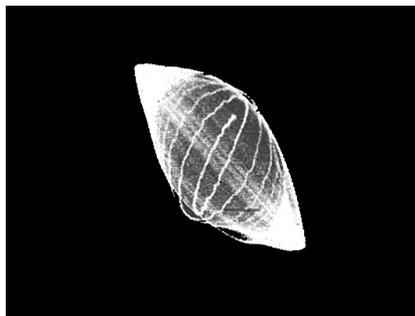
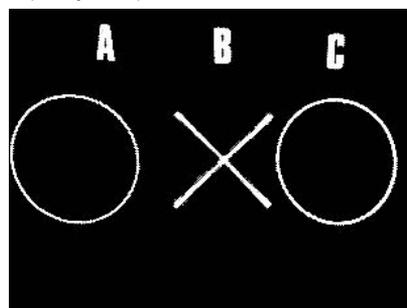

Fig.10. Phase shift from an amplifier during a frequency sweep from 1Hz to 1000,000 Hz.
Fig.11. As the text implies you may work these phase shift displays out for yourself with the aid of Fig.9.
Figure 10 was obtained by frequency sweep from 1Hz to 100,000Hz and shows phase shift through an amplifier which rotates -completely through 360 degrees as the frequency comes down to 1Hz (the spiral part of the display). Multiple exposure photography and phase shift have been used to produce the oscillogram Fig. 11 which should be easy to work out.
Fig. 11. Square-wave test for ringing, (A) Input signal (B) Output from amplifier showing severe ringing due to inductive circuitry. Frequency of ring is about 5kHz.